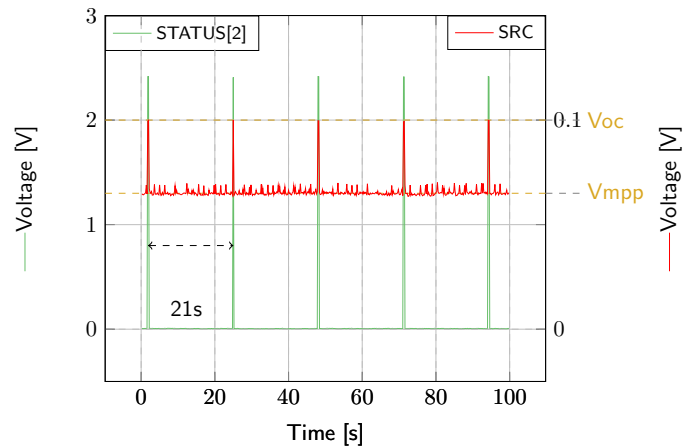

Figure 3: **SRC** and **STATUS[2]** while energy is extracted from **SRC** (**BATT** under **Vovch**)
- **STATUS[2]**: Asserted each time the AEM20940 performs a MPP evaluation (see Figure 3).